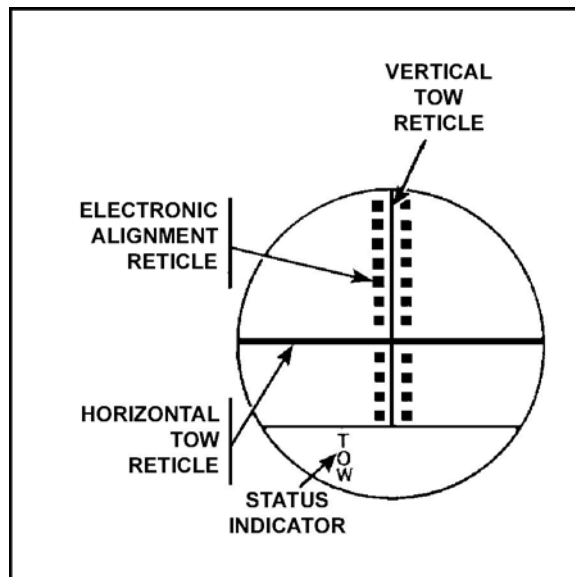

Figure 4. M2A1 eyepiece.
e. Look into the gunner's eyepiece and press the TOW button (Figure 4).